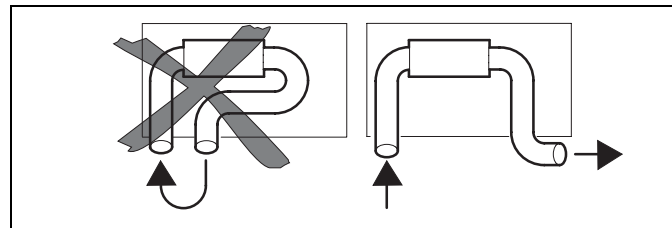

Fig. 7 Hot air inlet and hot air outlet
- Air short circuit between the heater's air inlet and the heater's air outlet (Figure 7)